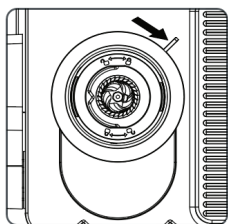

Figure 1
4.1 Remove the bean box by rotating it counterclockwise. Then, rotate the A21 regulator to the position indicated (see Figure 1).